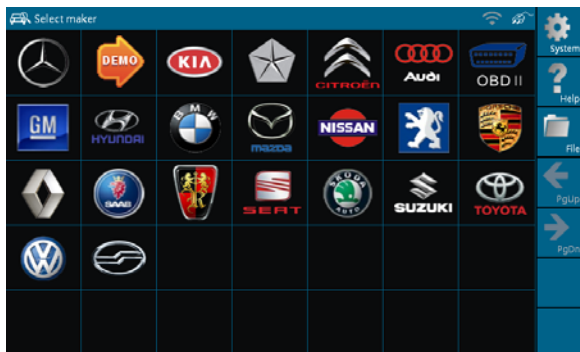
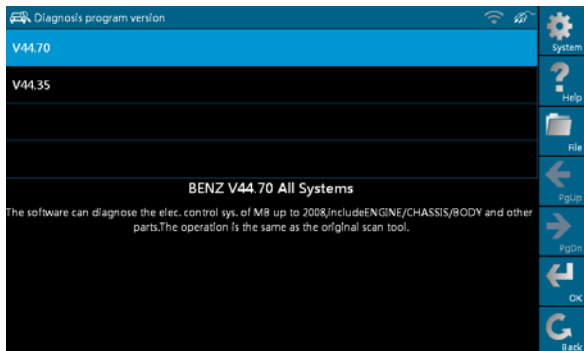

Figure 3-1
Figure 3-2
1. If only for Mini-car, the interface will display as following figure 3-1.
Click corresponding option and the interface will enter Figure 3-1.
In Figure 3-1, select "DEMO" and the screen will display the selection menu for DEMO diagnosis program version, as shown in Figure 3-2.
In Figure 3-2, click [OK] to proceed to Figure 3-3.